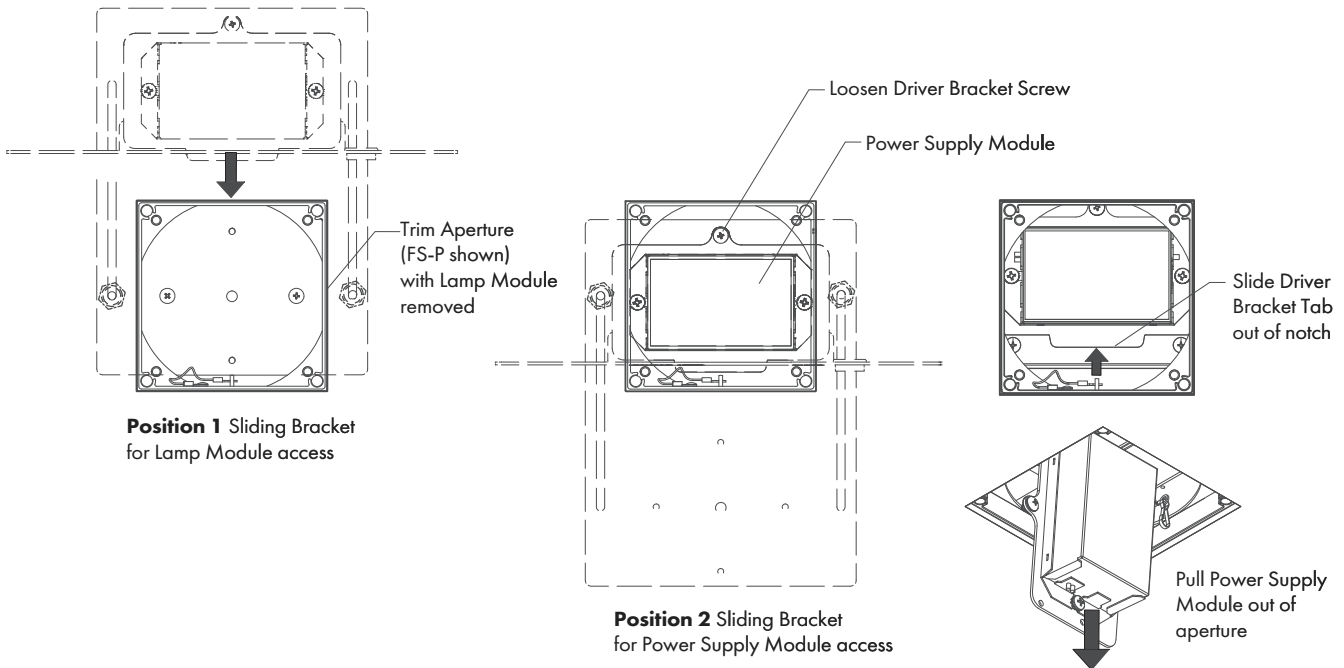

FIG 8.2 Sliding Bracket Positioning and Remove/Replace Power Supply Module
- STEP 3 Move Sliding Bracket along slots to expose Power Supply Module in the aperture (Position 2) - **FIG 8.2.**
- STEP 4 Loosen Driver Bracket Screw, remove Power Supply Module through aperture, and disconnect wire connections - **FIG 8.2.**